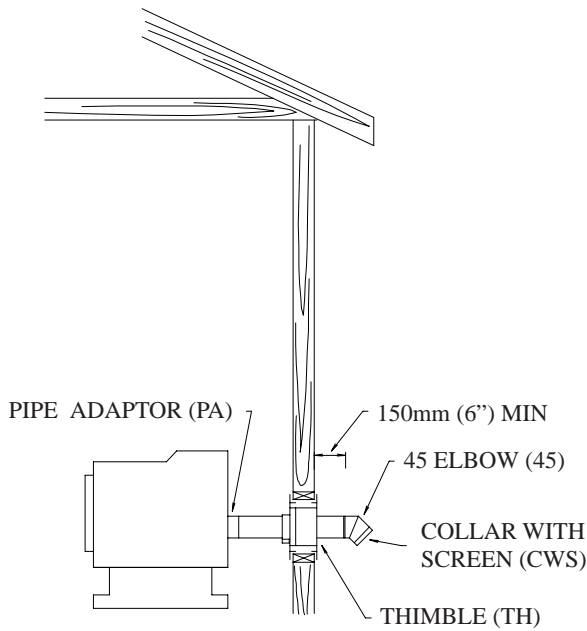
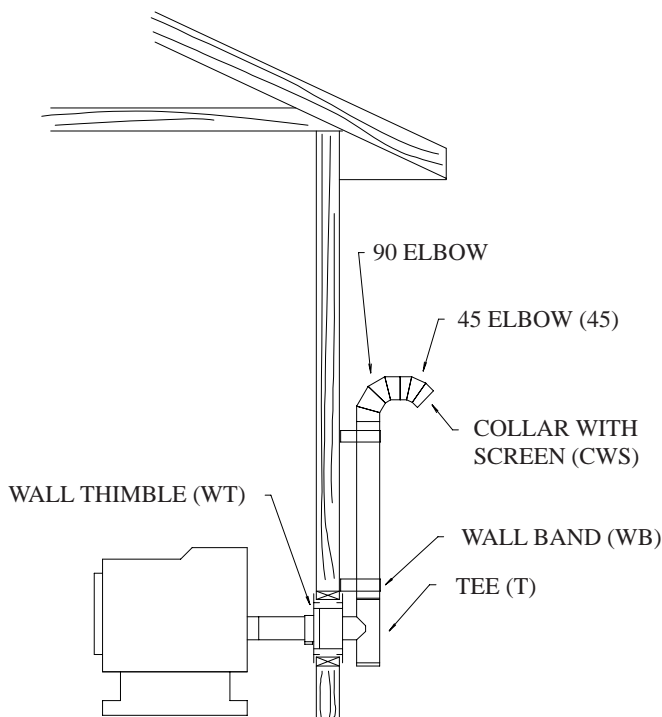

FIGURE 4
FIGURE 7
2.1 General VENT layout is shown in Figures 4 and 6.
2.11 There are two alternative vent terminations. A 45 degree ELBOW may be used together with a COLLAR WITH SCREEN as shown in Figure 4, or as shown in section 4 and Figure 7.
4.3 Attach a 45 DEGREE ELBOW to the 90 DEGREE ELBOW, aiming the second elbow down toward the ground. Terminate the vent with a COLLAR WITH SCREEN fastened to the 45 DEGREE ELBOW (see Figure 7).